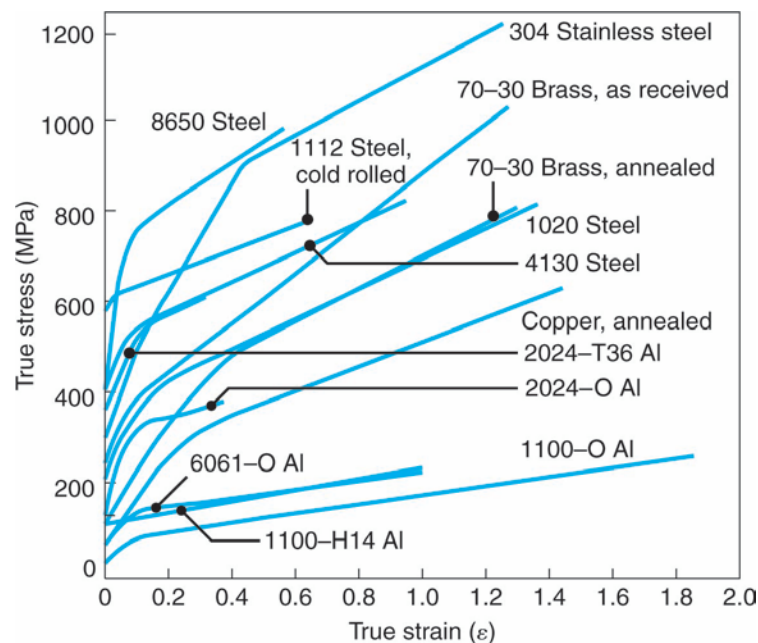

Figure Q3[c]
- [c] Estimate the roll force, F , and the torque for an AISI 1020 carbon-steel strip that is 200 mm wide, 10 mm thick, and rolled to a thickness of 7 mm. The roll radius is 200 mm, and it rotates at 200 rpm. Given $K = 530$ MPa and $n = 0.26$ for the steel. Refer to Figure Q3[c] for the true stress-true strain relationship for the steel.